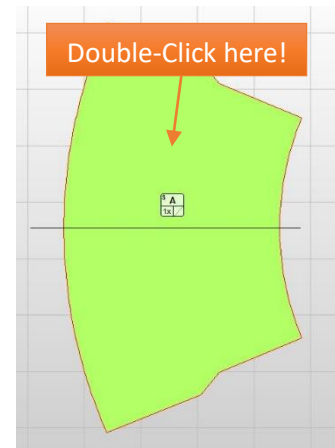

Figure 108
14. Double-click the bulkhead mastercut (Figure 108).